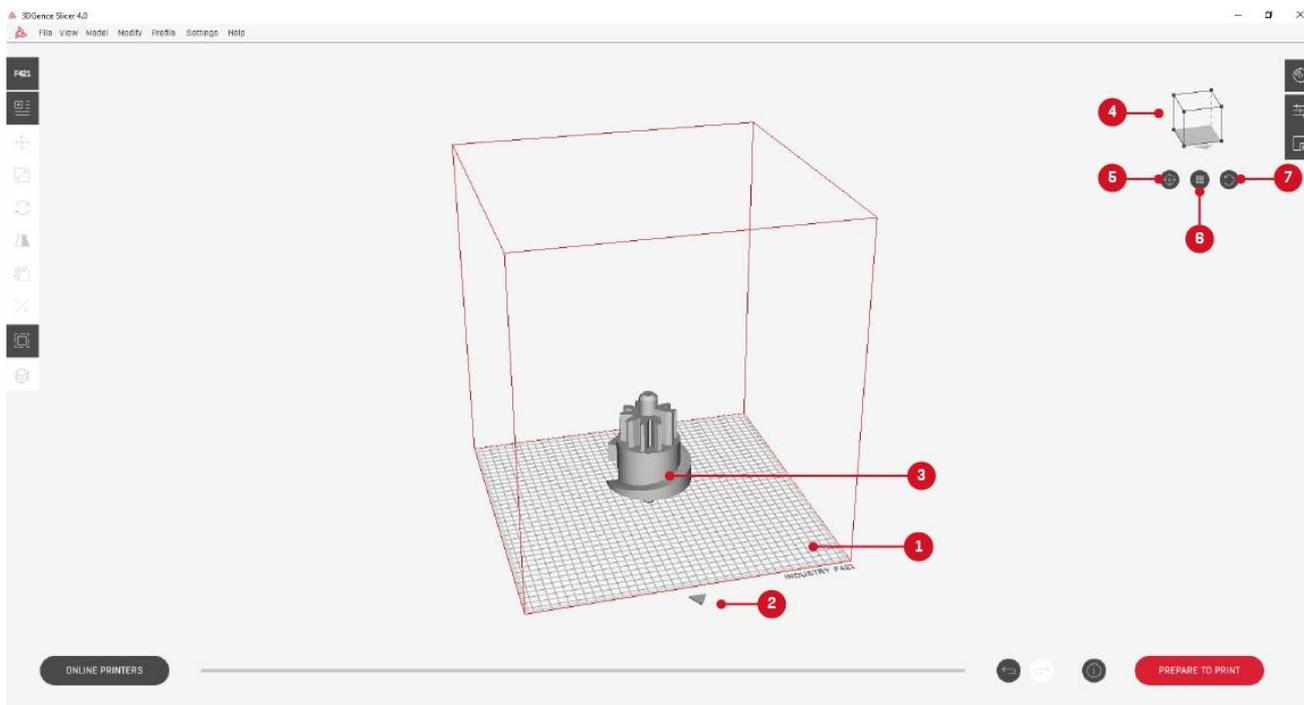

Fig. 25 Virtual heatbed
- The virtual heatbed (Fig. 25) – is a graphic representation of the machine working area, where the models to be printed are set. The software will not allow printing of models which partially protrude outside of the working area. The models which do not fit the heatbed are highlighted red. The size of the area changes dynamically when the printer is selected. Part of the working area is in most cases reserved to the print, e.g. of a raft which improves the print adhesion to the heatbed. It is recommended to print within the distance of at least 5 mm from the working field edge.